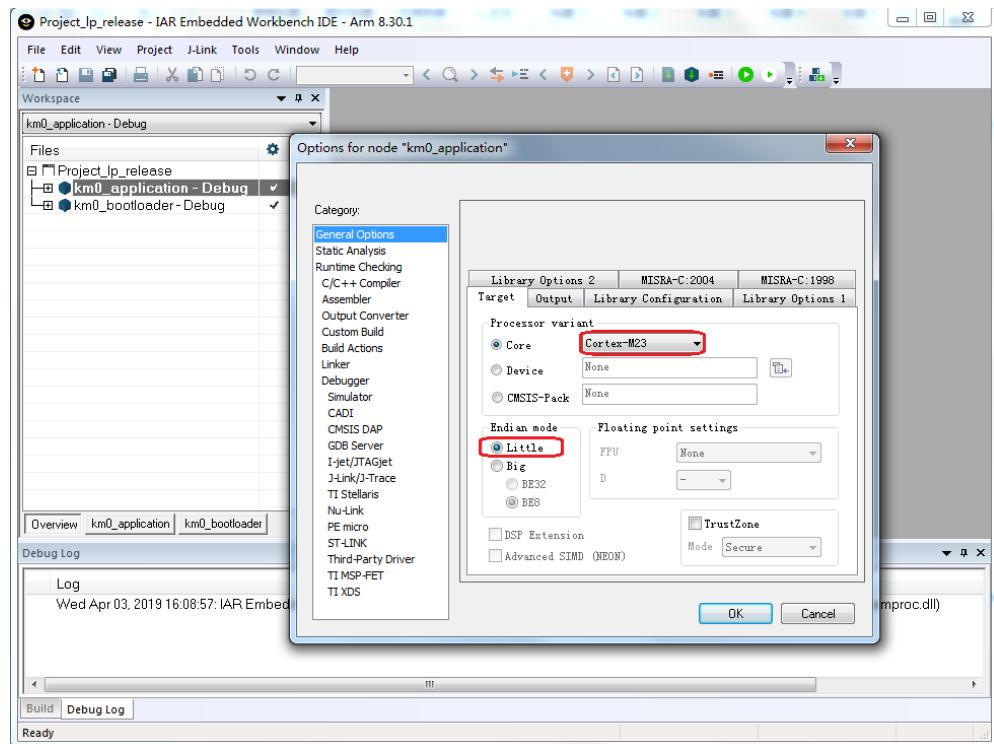

Fig 6-7 KM0 processor options
- (1) Open `project\realtek_amebaD_va0_example\EWARM-RELEASE\Project_ip_release.eww`.
- (2) Make sure km0_bootloader and km0_application are in Workspace. Click **Project > Options, General Options > Target > Processor Variant > Core**, verify the CPU configurations according to Fig 6-7.